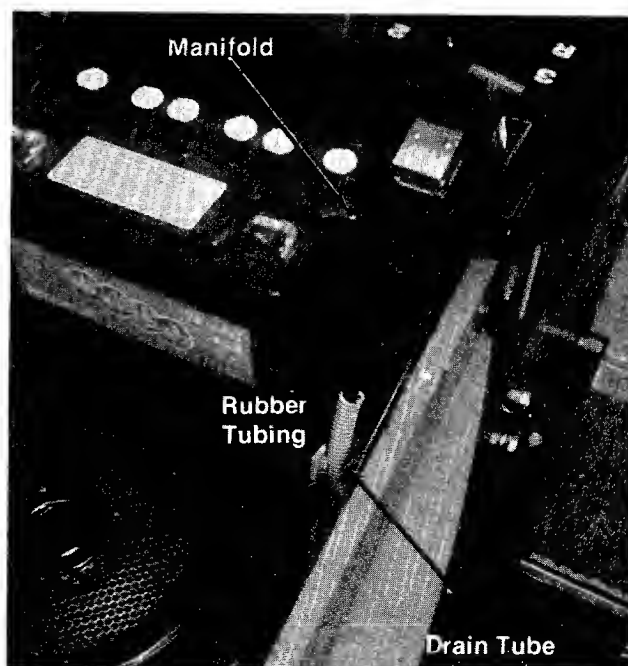

FIGURE 4.
2. Place the battery in the battery case with the terminal to the front. See figure 4.
4. Push the rubber tubing into the manifold of the battery and place the other end into the drain tube. See figure 4.